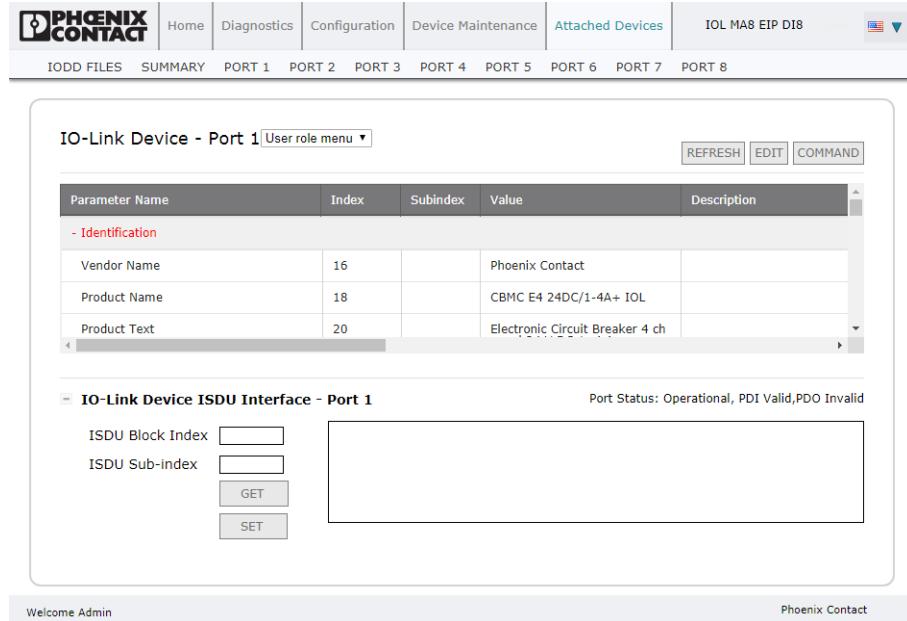

Figure 5-44 “IO-Link Device ISDU Interface - Port *n*” group expanded
- If necessary, convert hexadecimal ISDU index numbers to decimal, enter the decimal values in the "ISDU Block Index" and "ISDU Subindex" fields (see Figure 5-44).